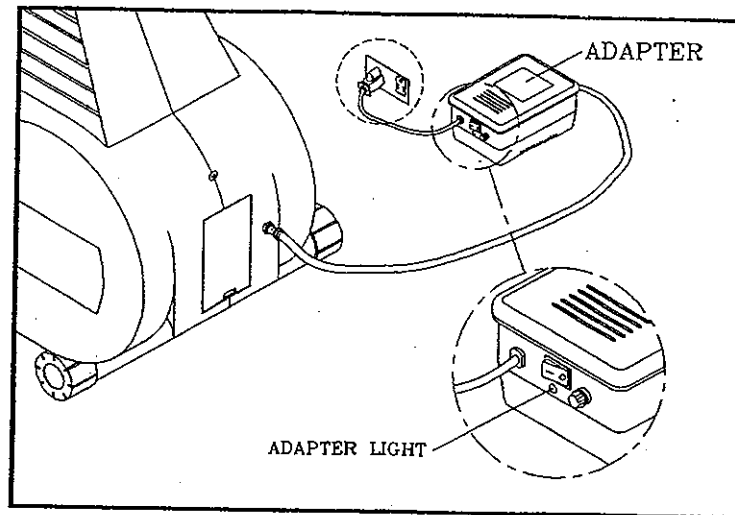

Fig. 1
- a. Check if the power cord is plugged securely into the wall socket.(see Fig. 1).